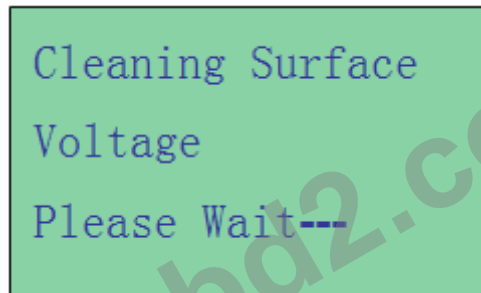

Figure 5
7. Press  key will proceed to do the battery testing and if it has detected any surface voltage on the battery, it will start to clean and a message is shown (Fig. 5) below.